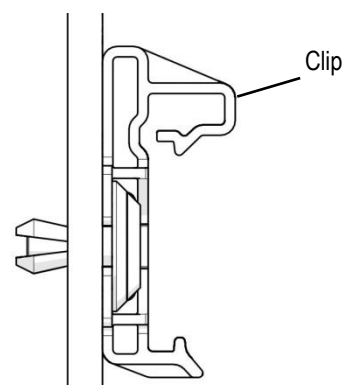

Fig. 23: Side view of a hanger clamp
- When positioning the hanger clamp, the clip must point upwards (see Fig. 23).